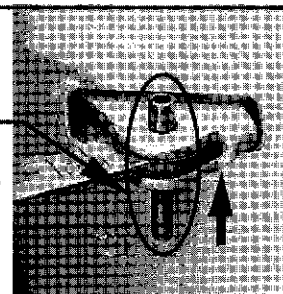

Figure 1
3. Use a plastic hammer to remove the door check arm pin. Pin will be reused for assembly (Figure 1).